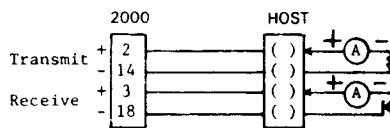

Figure 5-7. Full Duplex 4-Wire Connections
5.6 20 mA CURRENT LOOP INTERFACE (See Figures 5-7 through 5-10)